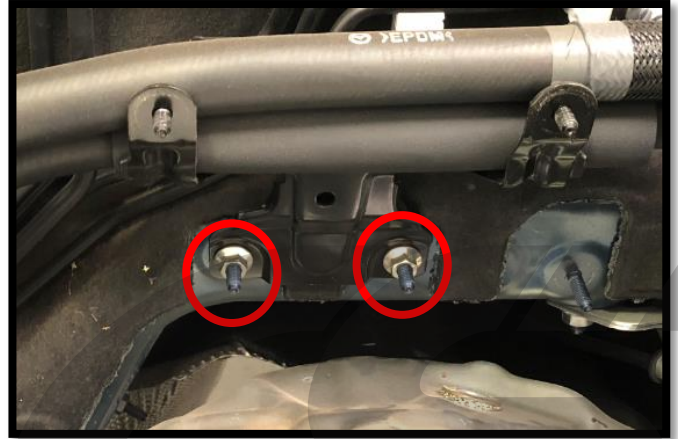

Figure 2f
- h) Remove the heater core hose support bracket by removing the two 10mm nuts. Shown **circled in red** in **Figure 2f**.